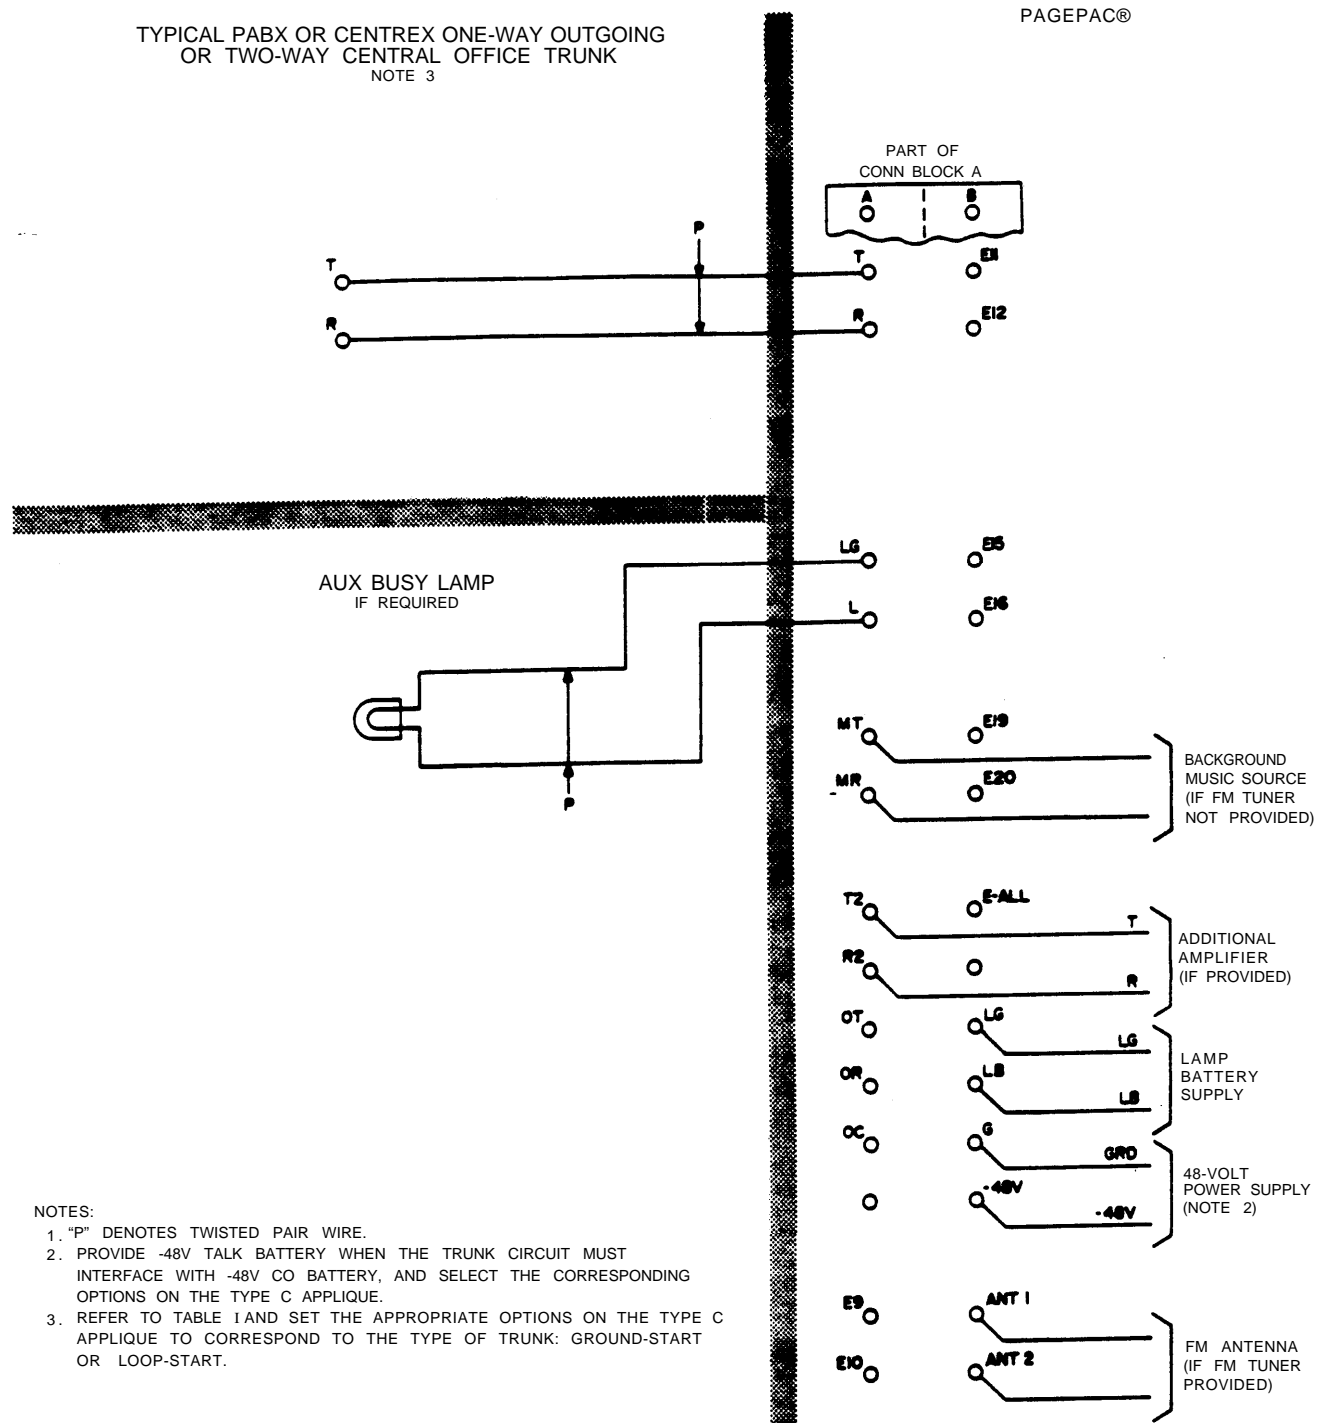

Fig. 21—Connections for PABX or Centrex Trunk Access
5.07 *Trunk Access:* If the paging system will be accessed via a ground-start or loop-start trunk of a PABX or Centrex system, provide a Type C Applique and perform the connections of Fig. 21.
5.13 *Use of External -48 Volt Power:* If the Type C Applique is provided access is from a PABX or Centrex trunk outlet, and the PABX trunk will not function properly when working into a 24-volt exchange, connect an external source of -48 volts and ground to terminals **-48V** and **G**, respectively, on connecting block A as shown in Fig. 21.